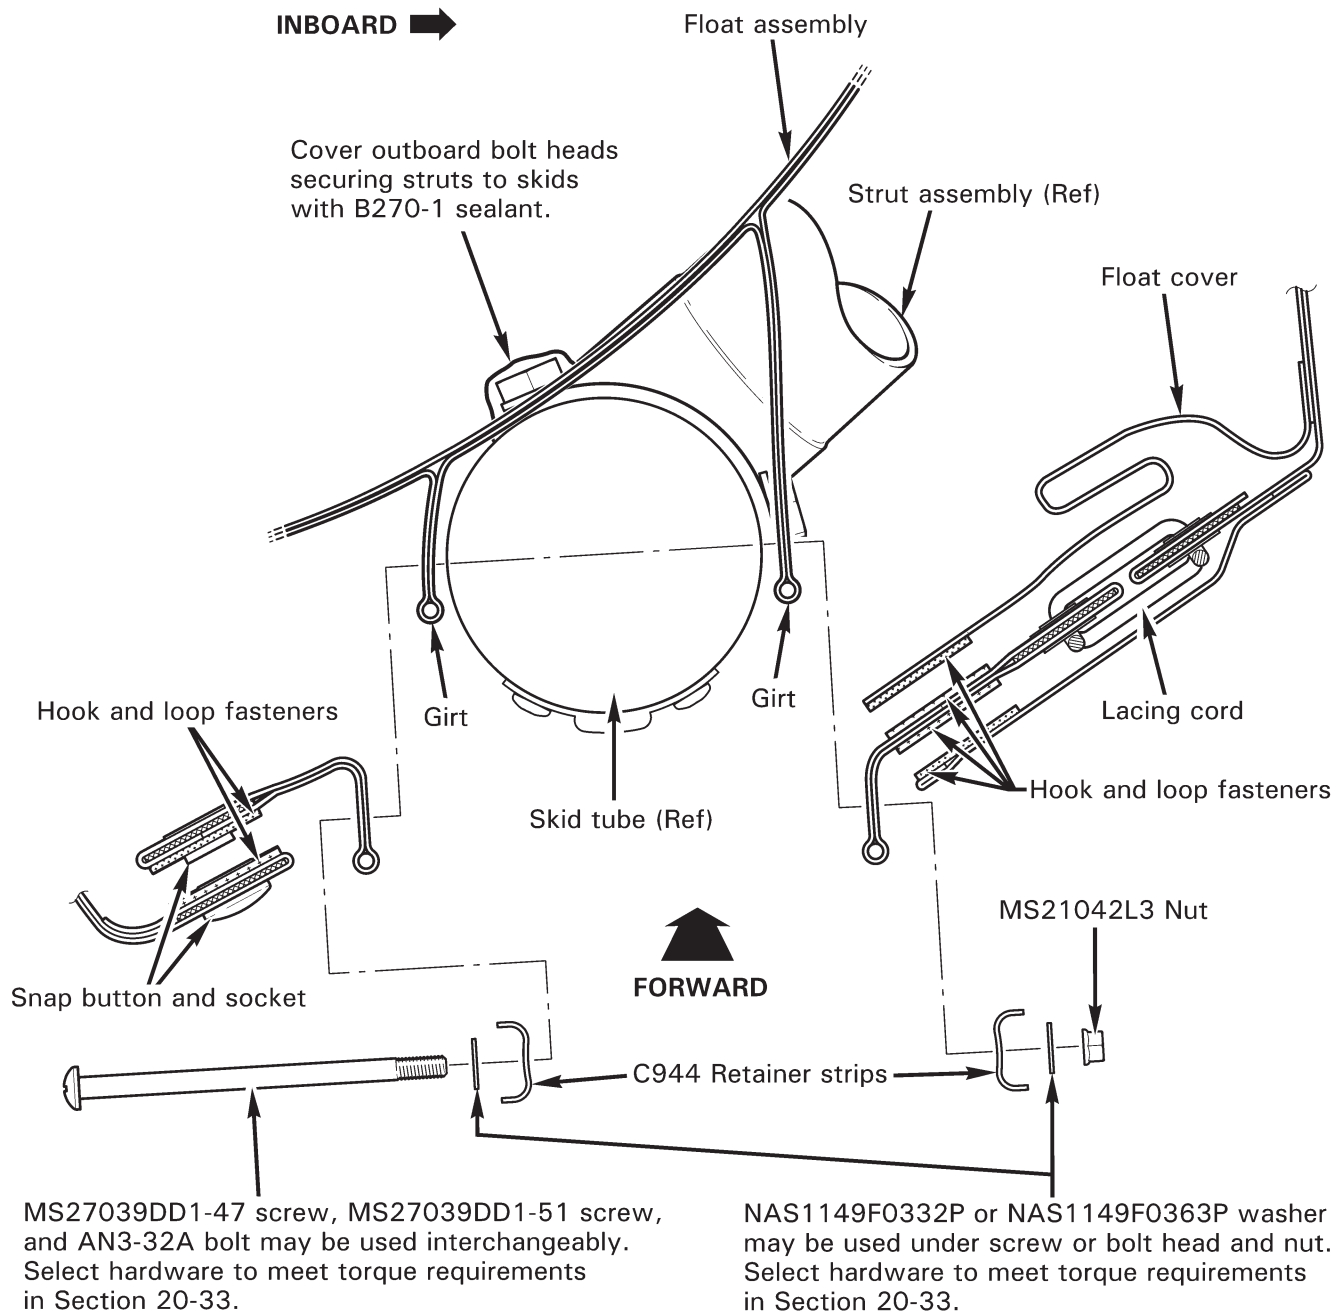

FIGURE 32-7 POP-OUT FLOATS FLOAT INSTALLATION
Refer to R66 Illustrated Parts Catalog (IPC) Figure 32-7.
3. Refer to Figure 32-7. Detach float cover hook and loop tape inboard of skid and loosen lacing.
1. Refer to Figure 32-7. Verify (outboard) bolt heads securing struts to skids are covered with B270-1 sealant. Apply additional sealant as required.
5. Refer to Figure 32-7 and Figure 32-8 Detail A. At girt forward edges, fold float perpendicular to skid tube; tuck material under and aft of float as shown.